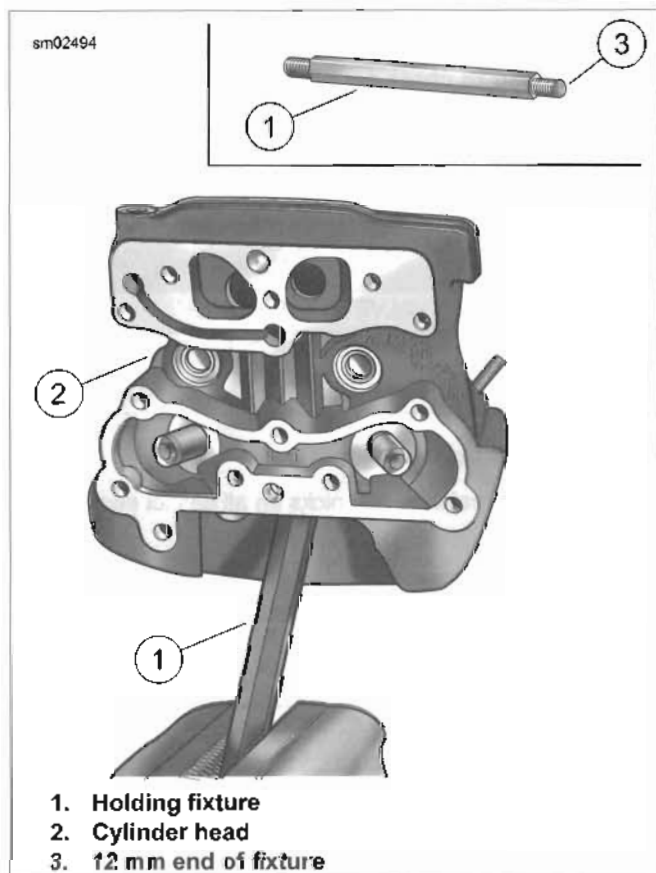

Figure 3-41. Cylinder Head Holding Fixture:
- See Figure 3-41. Secure cylinder head for service.
- Thread 12 mm end of CYLINDER HEAD HOLDING FIXTURE (Part No. HD-39786) (1) into cylinder head (2) spark plug hole.